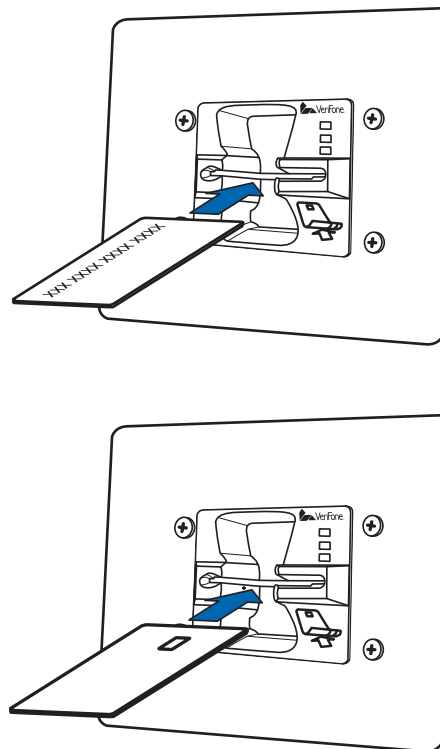

Figure 12 Using the Multi-Card Reader
- 1 Position the card, with the magnetic stripe facing downward and to the right of the card, or with the chip on the top right of the card (see Figure 12).